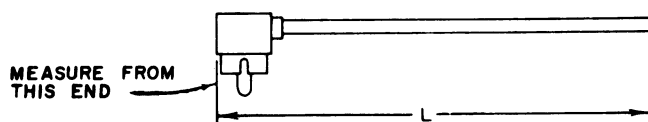

Figure 6 - Receiver Cable Length
3. Measure the cable as shown in Figure 6 and cut the cable to length.